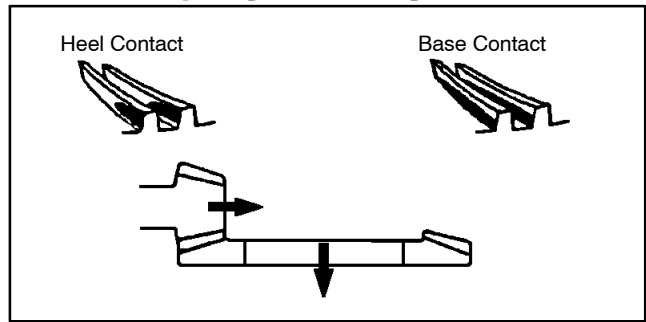

Figure 42
Study the different contact patterns (Figs. 42 and 43) and correct gear engagement as necessary.
1. If contact is toward the heel or base of the gear (Fig. 42):